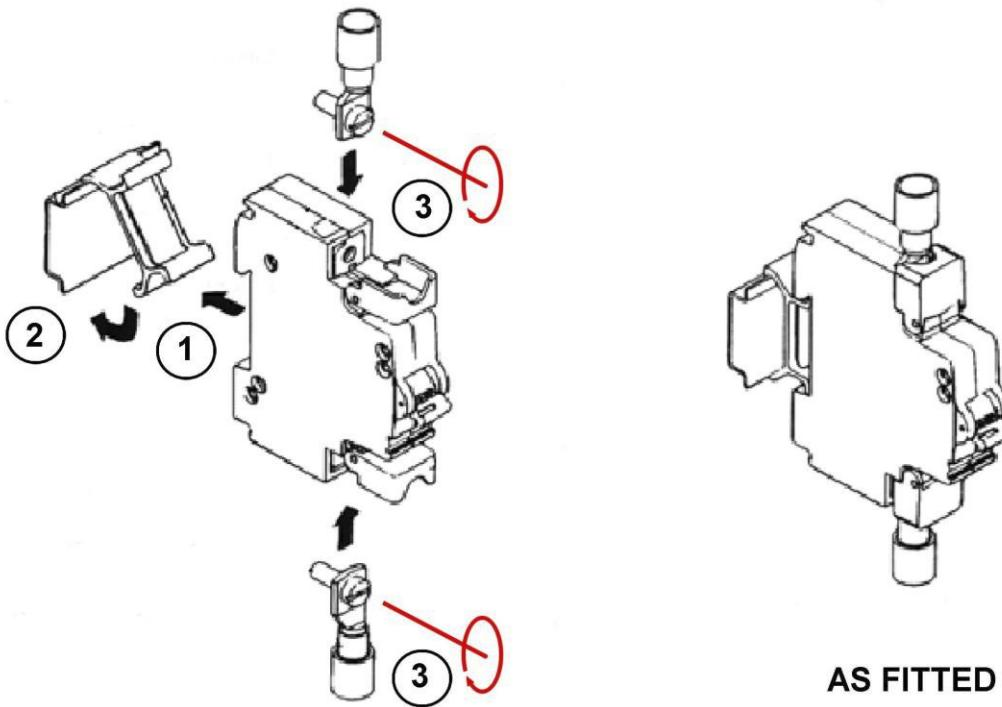

Figure 5 - LV LOCKER -10F02 CB INSTALLATION
- 6** Install the Circuit Breaker according to the instructions provided in the following figure 5.